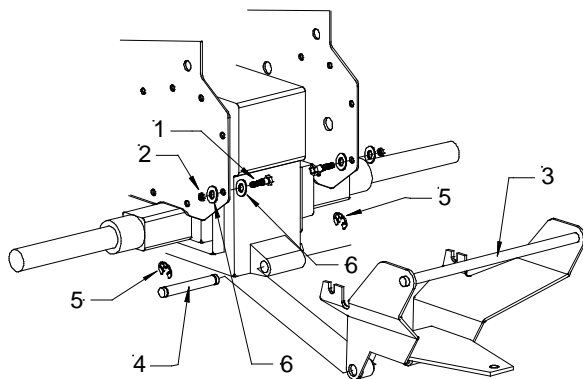

Figure 2
2. Install the hitch in place with tractor's original tow hitch, pin and clip, and secure to tractor frame, using bolts with flatwashers and lock nuts with flatwashers (fig. 2). Tighten securely.